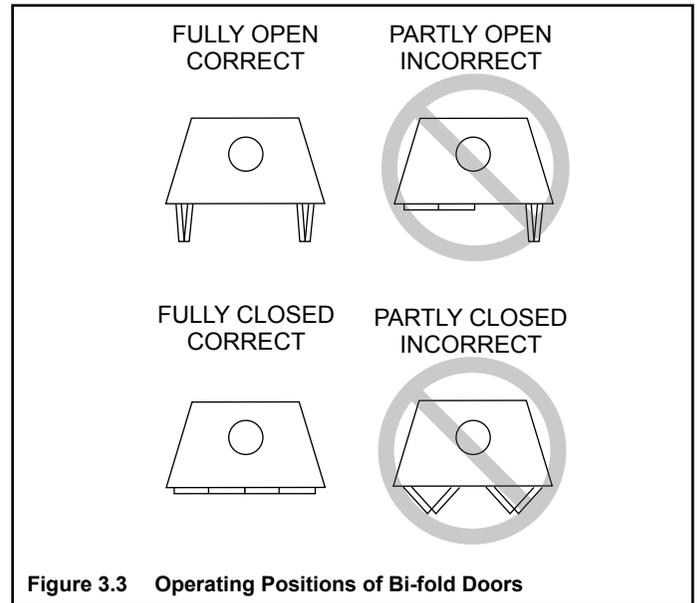

Figure 3.3 Operating Positions of Bi-fold Doors
- Refer to Figure 3.3 proper use.